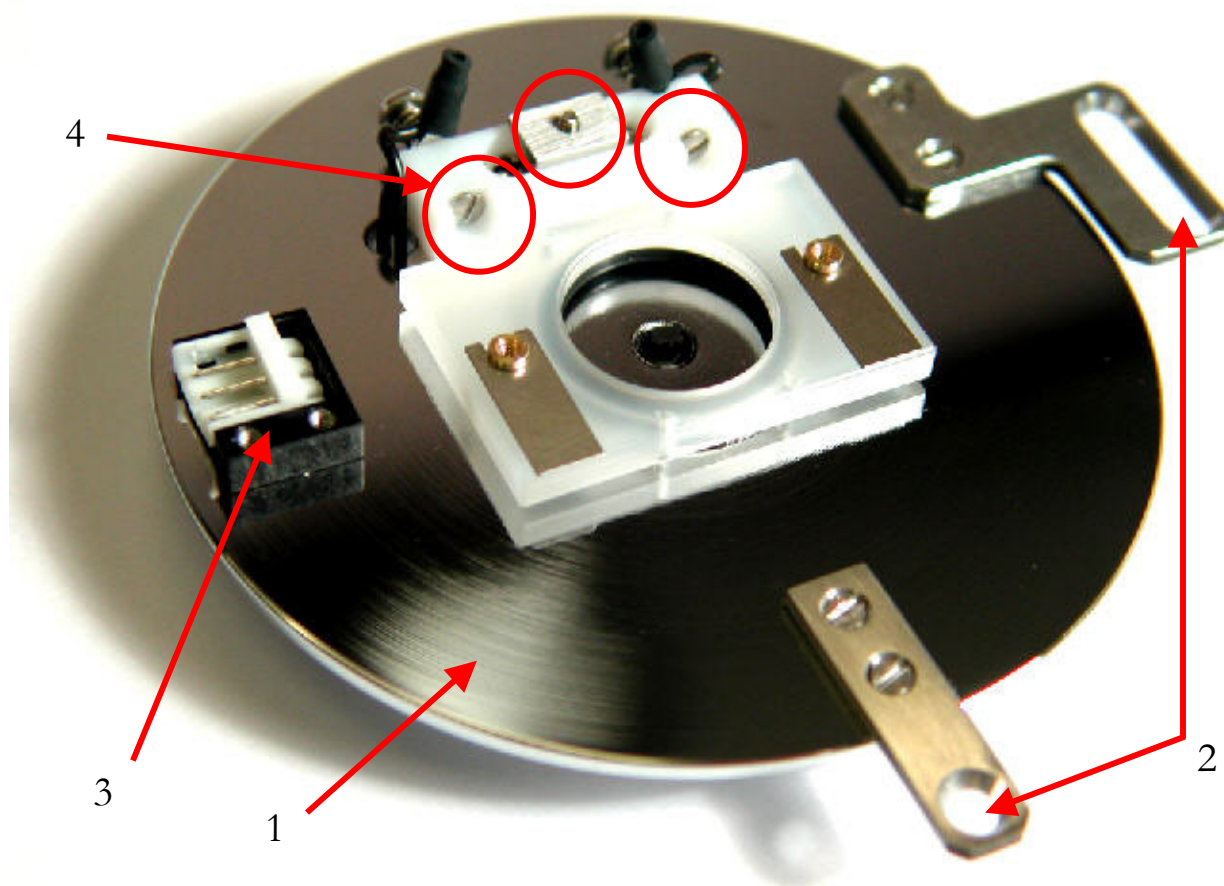

Figure 1 (sample plate with liquid cell in place)
4. **Electrode Connectors:** As shown from left to right in Figure 1 above, the connectors correspond to the reference, working, and counter electrodes. To connect the working electrode (WE), push the screw up from underneath and insert the long part of the electrode under the metal plate. To connect the reference and counter electrodes (RE and CE), push the pogo screws forward and insert the shorter end of the electrode.
8. Slide one of the retaining clips across the top of the liquid cell until it catches the groove in the top of the pin. See Figure 1 above.